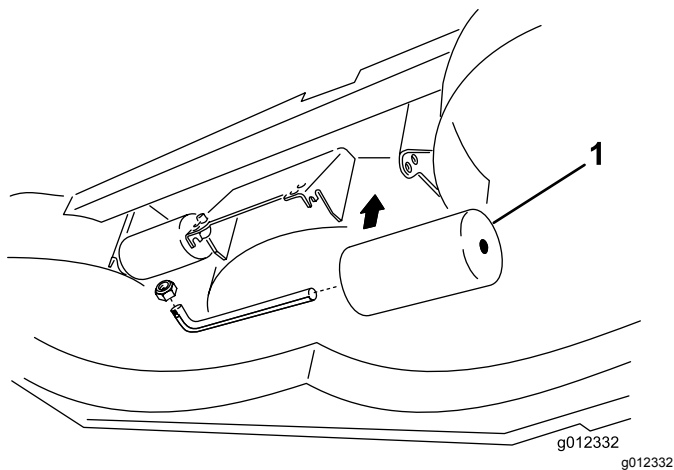

Figure 12
2. Adjust the rear (internal) rollers as shown in Figure 12.